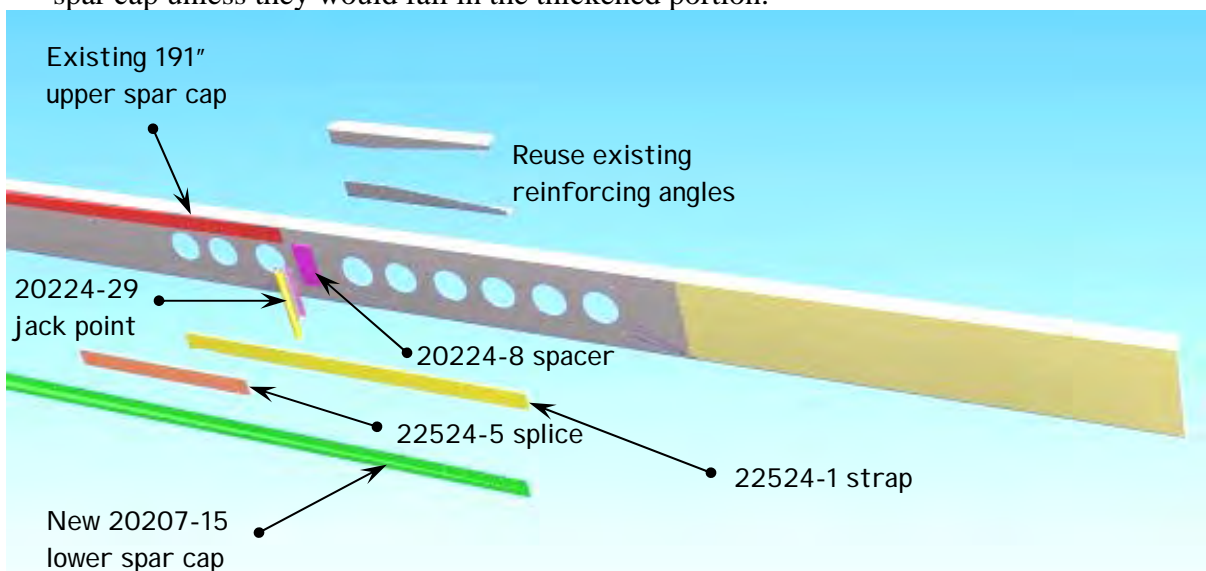

Figure 5.2.1): Exploded View of Upper Spar Cap Strap and Jack Point Installation.
5.2.2) Airplanes with 191" spar caps and square wing tips will need to also effectively extend their upper spar caps by installing 22524-1 strap & 22524-5 splice per drawing 94419, sht. 2 (see Figure 5.2.1). These parts must be ordered, as they are not part of the basic CK-AG-41 kit.
- 5.5) If the airplane originally had 191” spar caps, the old tie down/outboard jack point will not reinstall over the new spar cap.** A 20224-29 jack point assembly with a 20224-8 spacer must be installed in its place. These must be ordered, as they are not part of the basic CK-AG-40 kit. Ref. Figure 5.2.1) and drawing 94419 sht. 2 for installation illustration. Note that several holes that previously attached the jack point are now under the spar cap “bulb”, and should be left open. Use fastener holes that go through the spar cap web only.